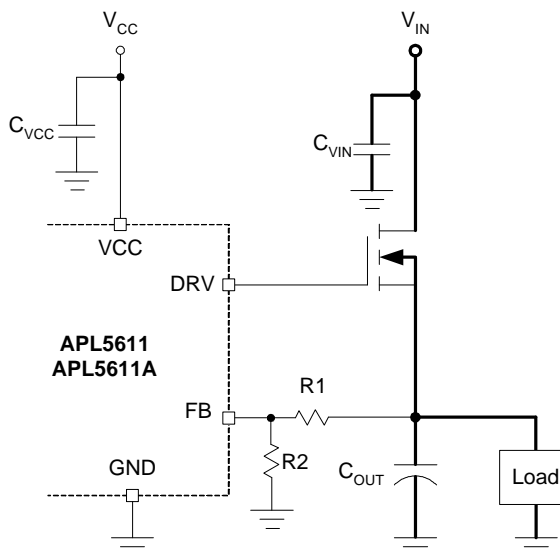

Figure 3
Figure 3 illustrates the layout. Below is a checklist for your layout:
5. Large current paths, the bold lines in figure 3, must have wide tracks.